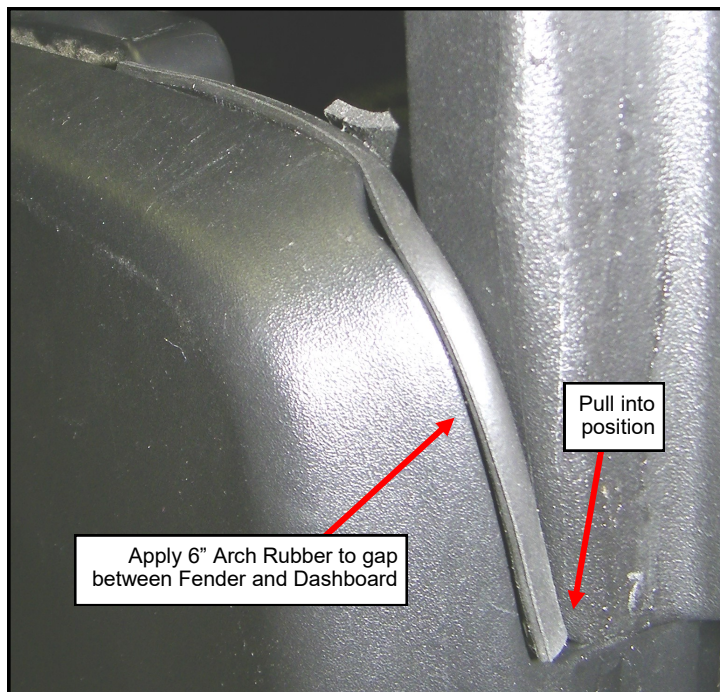

Figure 1.3: Fender Rubber (left side shown)
1.3 Apply a 6" piece of Arch rubber to the upper rear corner of the left and right fender (**Figure 1.3**). For best results, pull the rubber into the gap between the dashboard and fender with the adhesive side toward the fender. Pull until the rear end of the rubber aligns with the rear of the gap and press the rubber into place as shown.